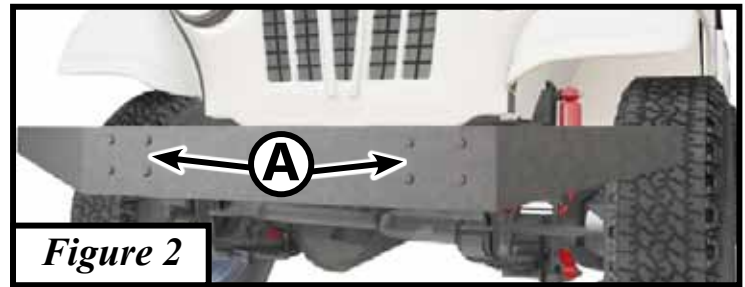

Figure 2
2. Temporarily remove 8 bolts (A) shown in **Figure 2** and set front bumper aside to reinstall in a later step.
4. Set front bumper (removed from Step 2) in place and install with bumper bolts (A) previously removed in Step 2 as shown in **Figure 2**.